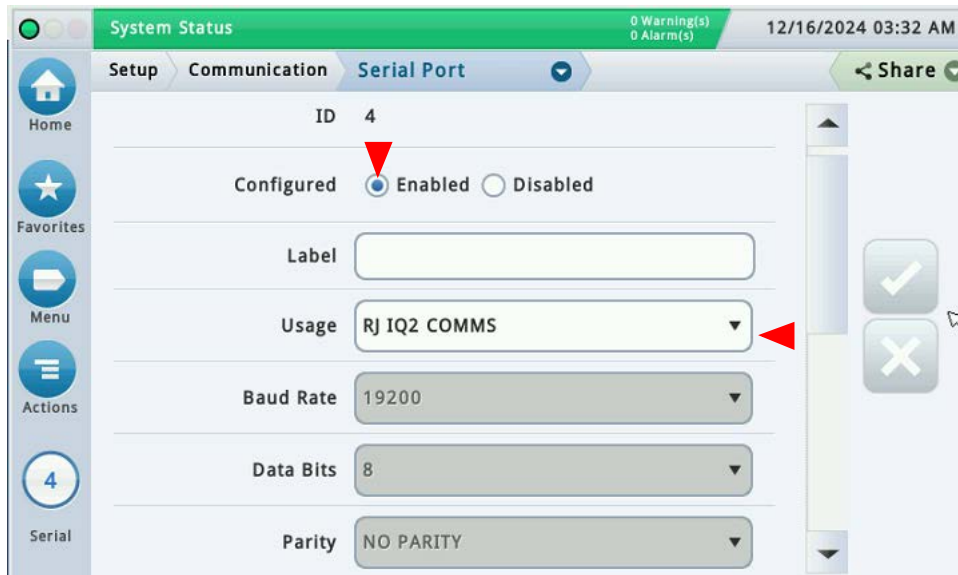

Figure 23. Serial Port Assignment
- From the Home screen, navigate to the **Setup > Communication > Serial Port** screen (see) Figure 23). In the **Usage** field, choose 'RJ IQ2 COMMS'